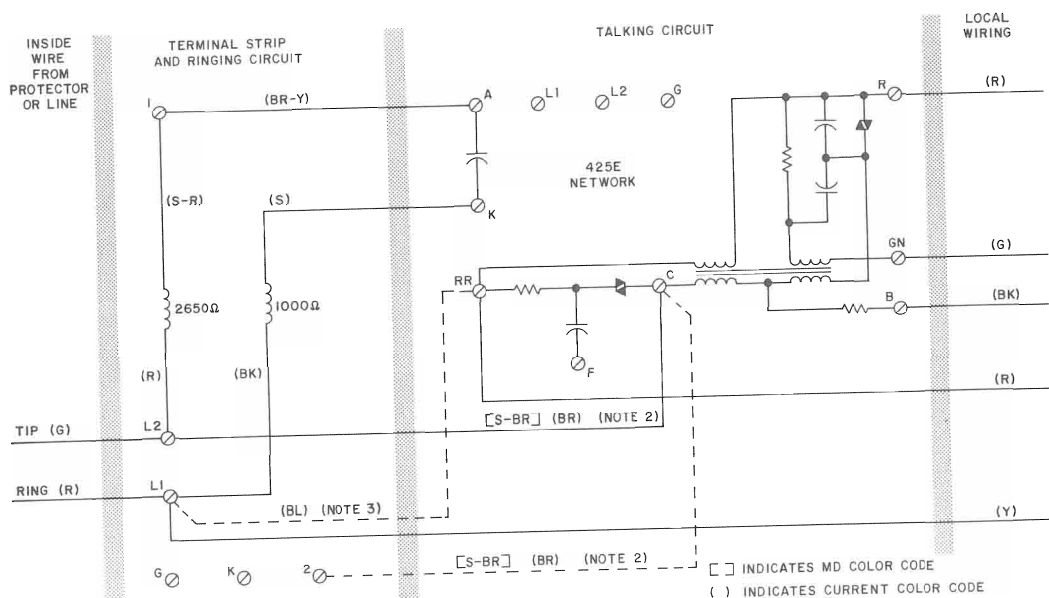

Fig. 3 — Circuit Diagram for Connections with Postpay Manual and Rotary Dial Coin Collectors
2.03 See Fig. 3 and Table C for circuit diagram and connections for postpay manual and rotary-dial coin collectors.